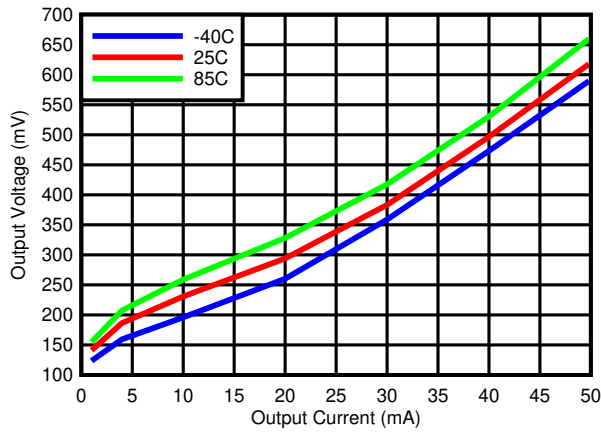
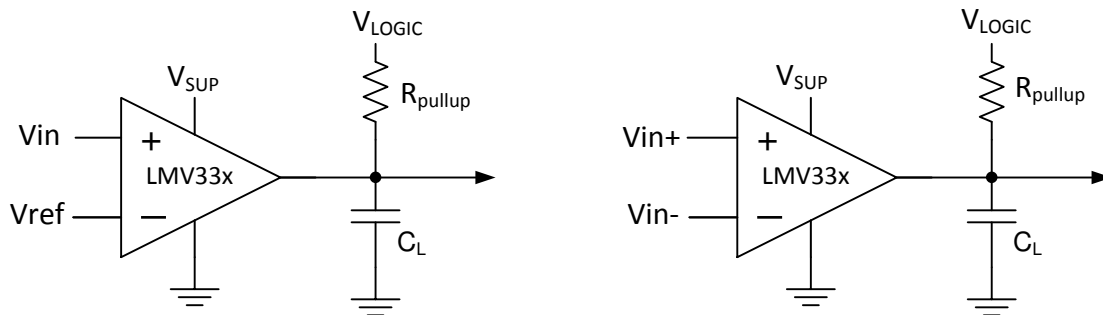

FIG 5-3. Output Voltage vs Output Current
図 7-1. Typical Application Schematic
The output consists of an open drain NPN (pull-down or low side) transistor. The output NPN sinks current when the negative input voltage is higher than the positive input voltage and the offset voltage. The V_{OL} is resistive and scales with the output current. Please see Figure 5-3 for V_{OL} values with respect to the output current.
Output current is determined by the pull-up resistance (R_{pullup}) and Vlogic voltage, refer to Figure 7-1. The output current produces a output low voltage (V_{OL}) from the comparator. In which V_{OL} is proportional to the output current. Use Figure 5-3 to determine V_{OL} based on the output current.
- R_{CE} can be determine by taking the slope of Figure 5-3 in it's linear region at the desired temperature, or by dividing the V_{OL} by I_{out}